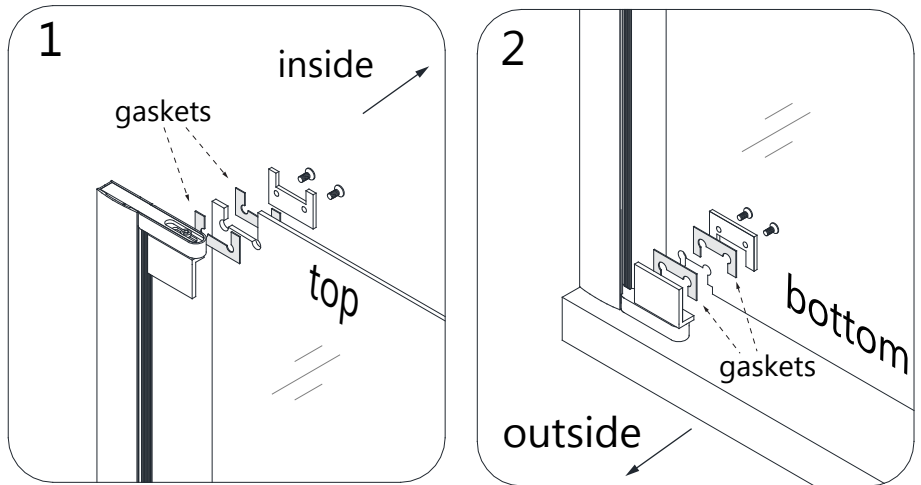

Fig 6
6. Remove the Bolts (L) and Back Plates (K) from the top and bottom Pivot Assemblies (#07).
Position the Door Glass (#03) onto the Pivot Assemblies (#07). Hold the Clear Gaskets (J) in place on either side of the Door Glass and attach the Back Plates (K). Tightly secure the Door Glass (#03) to the Pivot Assemblies (#07) using Bolts (L). (Fig 6)